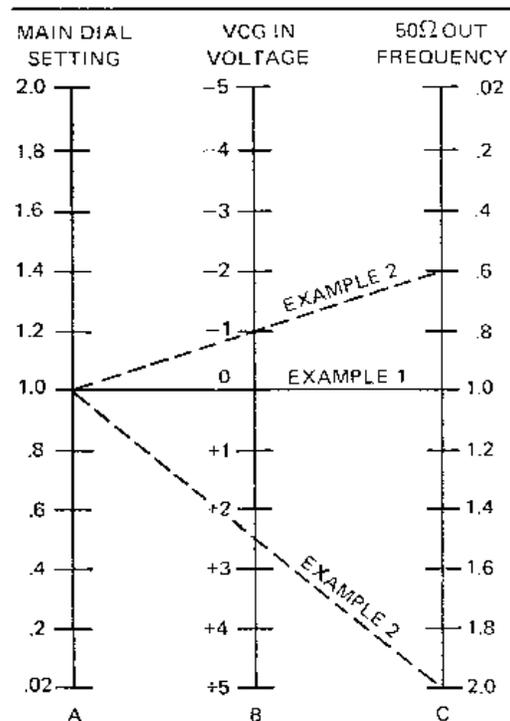

Figure 2-2. VCG Voltage-to-Frequency Nomograph
7. The nomograph in Figure 2-2 shows the characteristics of the VCG circuit for linear frequencies. Column A gives the frequency dial setting; column B, the VCG input voltage; and column C, the approximate resultant dial frequency. Column C must be multiplied by the frequency range multiplier for the actual output frequency.